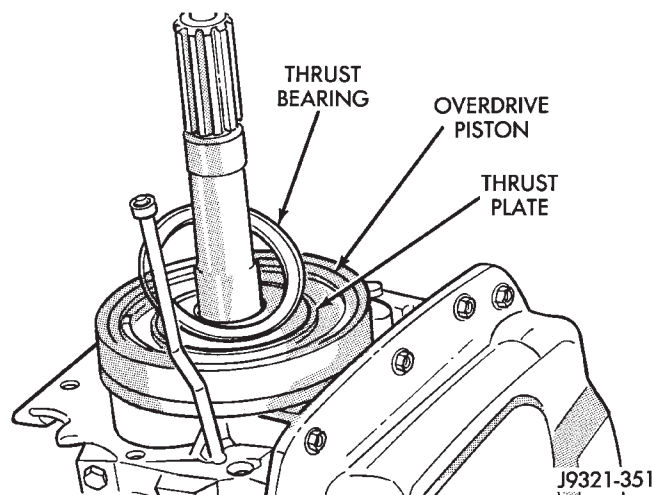
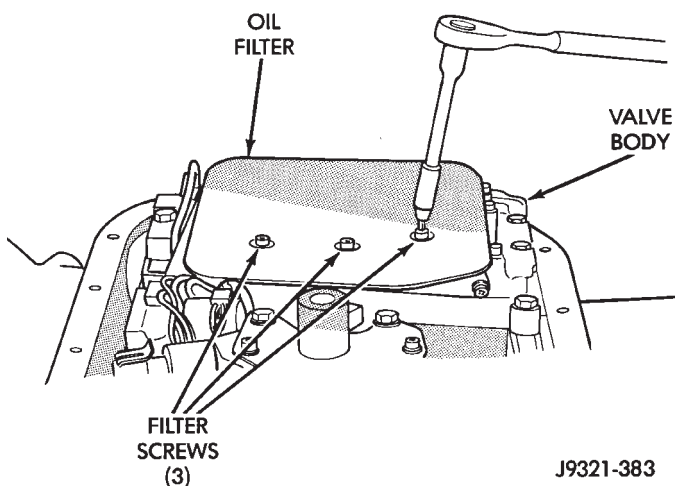

Fig. 126 Thrust Bearing And Plate Removal
Fig. 127 Oil Filter Removal/Installation
(9) Remove thrust bearing and thrust plate from overdrive piston (Fig. 126).
(10) Place transmission in horizontal position.
(11) Remove transmission oil pan and gasket.
(12) Remove oil filter from valve body (Fig. 127). Keep filter screws separate from other valve body screws. Filter screws are longer and should be kept with filter.